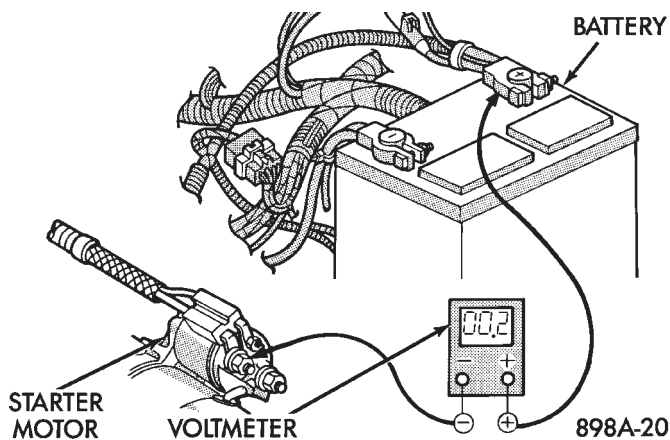

Fig. 4 Test Battery Positive Cable Resistance - Typical
(3) Connect the voltmeter to measure between the battery positive terminal post and the starter solenoid battery terminal stud (Fig. 4). Rotate and hold the ignition switch in the Start position. Observe the voltmeter. If the reading is above 0.2 volt, clean and tighten the battery cable connection at the solenoid. Repeat the test. If the reading is still above 0.2 volt, replace the faulty battery positive cable.